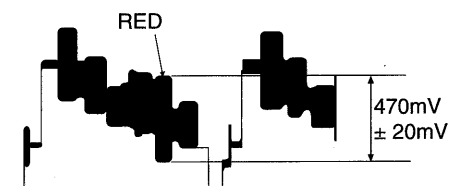

Fig. 2-1
Press the [Ctrl] key and hold it down, then press the **U** and **D** keys so the red level is $470\text{mV} \pm 20\text{mVp-p}$. (Fig. 2-1)
(3) Chroma Gain Adjustment (Figs. 2-1, 2-2, 2-3)